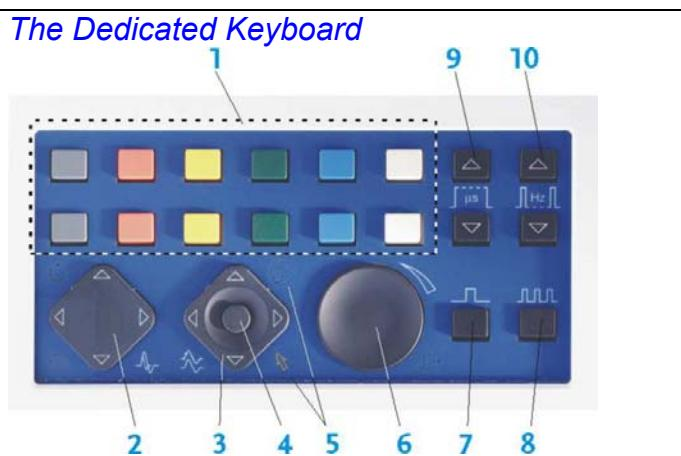

Figure 8 Dedicated Keyboard
If multiple traces are present in the Trace Window, you may select another trace by the up/down arrows on the move/position button on the dedicated keyboard, see Figure 8 below.
- To change the sensitivity use the up/down arrows of the sweep speed/sensitivity buttons on de dedicated keyboard see Figure 8, or use the up, or down buttons on the PC keyboard.
board see Figure 8 and the Trace Window Function Buttons below.
- By clicking the information box in the Trace Window thus providing further parameter buttons at the bottom of the screen, you will find the Clip Sound among these buttons, see Figure 8 below.
- The **Trigger Mode** can be activated by way of the mouse in the Trace Window: by clicking on the second half of the dotted line, while at the same time dragging in the mouse from the left side of the window frame. It may also be activated by way of pushing the Wheel Mode button, see Figure 8.
- Deactivate the Trigger Mode by way of using the mouse, dragging the horizontal marker out the window. You may also deactivate the Trigger Mode by pushing the Wheel Mode button, see Figure 8.
The level can also be set by using the Intensity Wheel on the dedicated keyboard, see Figure 8.